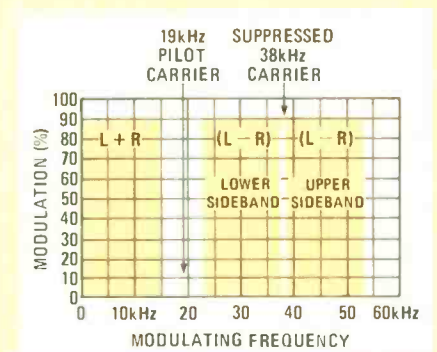

FIG. 6—FREQUENCY SPECTRUM of transmitted FM stereo signal.
Figure 6 shows how the available 75-kHz channel bandwidth (actually, the bandwidth is ± 75 kHz, on either side of carrier's center frequency, but only one-half of the symmetrical signal is shown) is used to broadcast a stereo composite signal. First, the sum of the left (L) and right (R) program signals is combined ($L + R$) and used to modulate the main carrier in much the same way that a monophonic signal would be used, over an audio frequency range from 30 Hz to 15 kHz. In addition, the difference signal